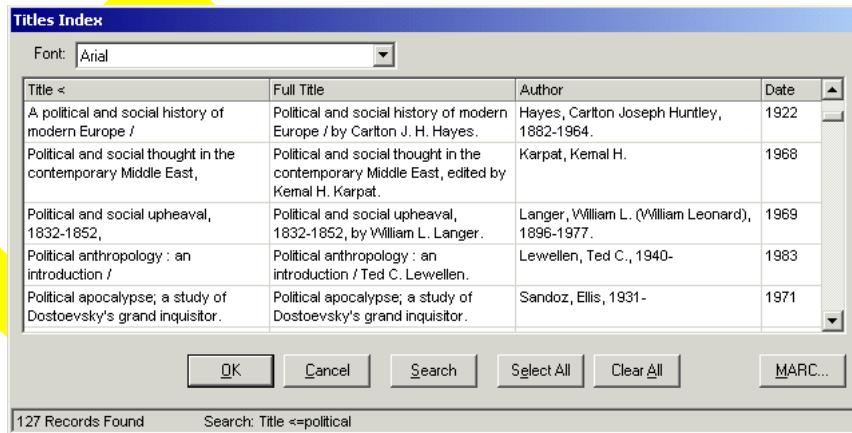

Figure 13-5. Title Index dialog box - MARC button displayed
- The **MARC** button on the **Titles Index** dialog box (Figure 13-5), which displays as a result of any non-Headings search done in Acquisitions. See Titles Index Dialog Box on page 2-28 for more information.